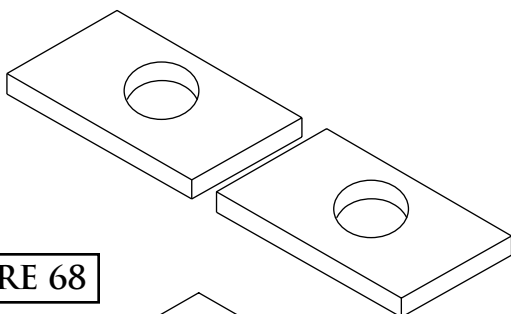

FIGURE 68
**Step 22:** Top plate small, part M77, two required, to be used "as is". (Figure 68)